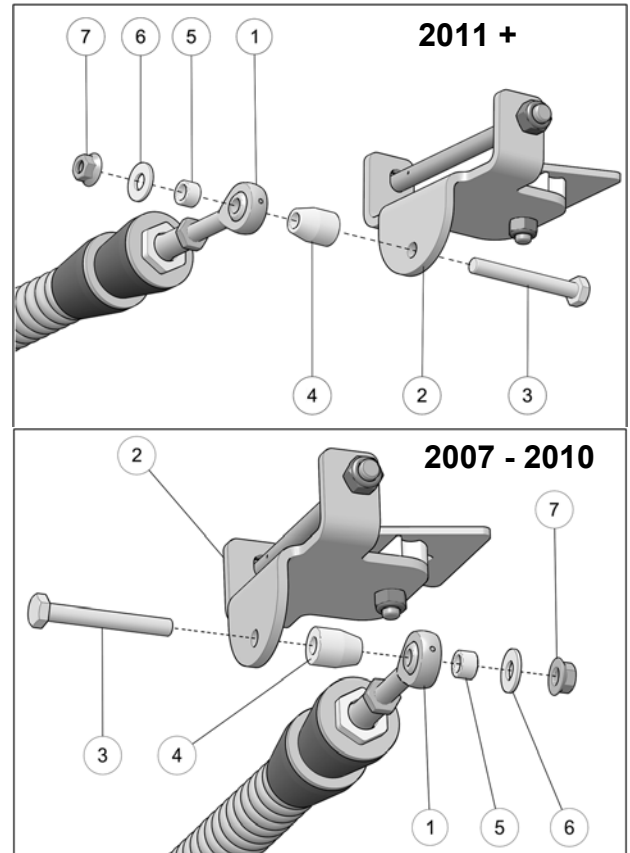

Fig. 11
10. Attach stabilizing rod (1) to anchor bracket (2), using bolt (3), long spacer bushing (4), short spacer bushing (5), flat washer (6) and nut (7). Torque to 70 N•m [52 lb•ft]. See Fig. 11